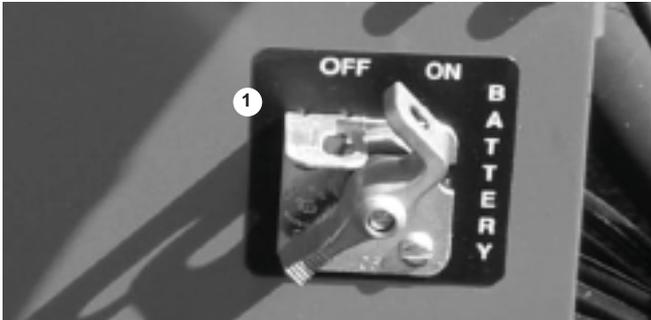

Figure 8.3
1. Set the battery switch (1) to on (see figure 8.3).